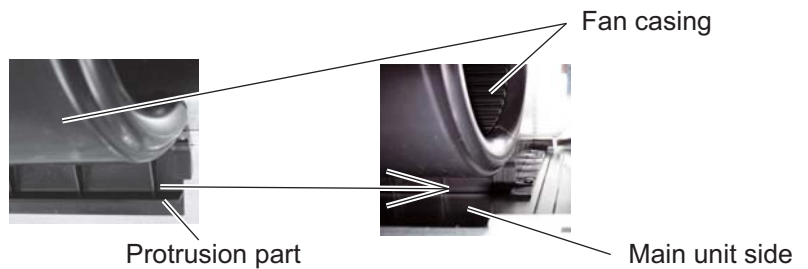

**Fig. 4**
4. Remove the bottom plate. (Fig. 4)